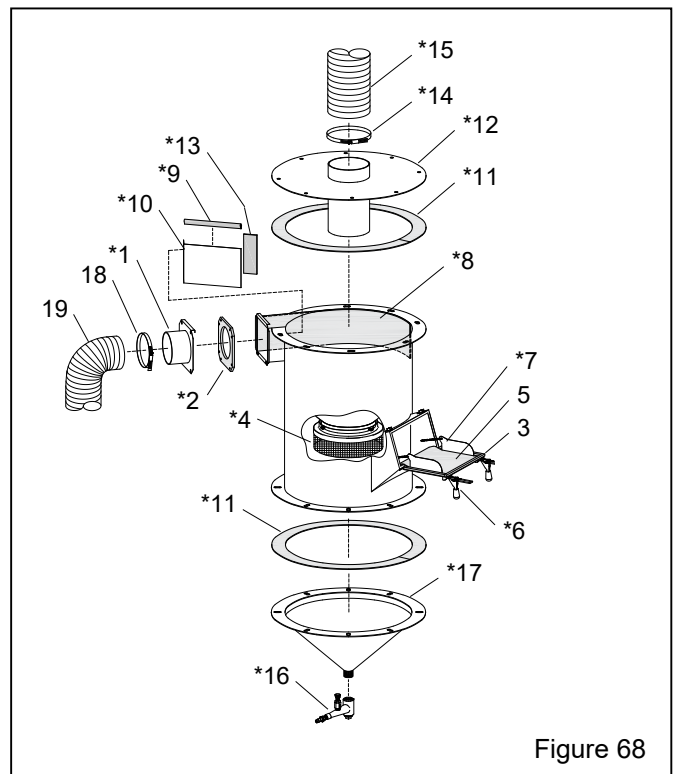

Figure 68
10.11 Reclaimer, 600 CFM – Figure 68